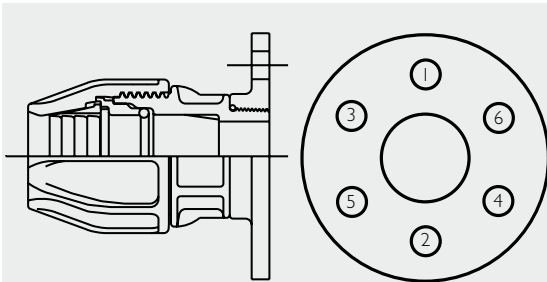

FIGURE 1
3. Tighten the bolts with a spanner ensuring the bolts are torqued up correctly in an appropriate sequence, refer Figure 1.
When assembling a flanged adaptor, position the gasket and loosely assemble the fitting. Tighten bolts gradually in sequence shown numerically in Figure 1, to ensure even compression around the flange. Ensure washers are used under bolt heads and nuts.